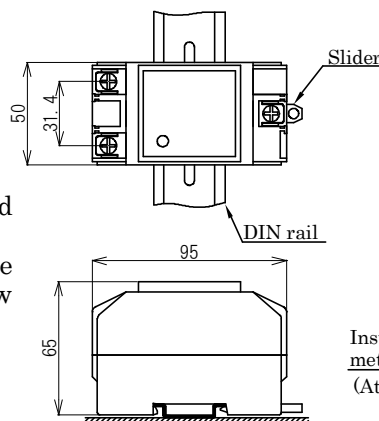
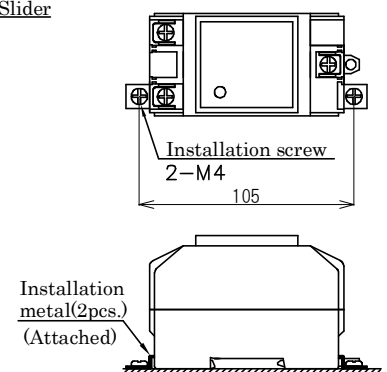

Fig.2 Installation to DIN rail
Fig.3 Using the installation metal
- 1) The SPD should be installed shown in Fig.2 or Fig.3.